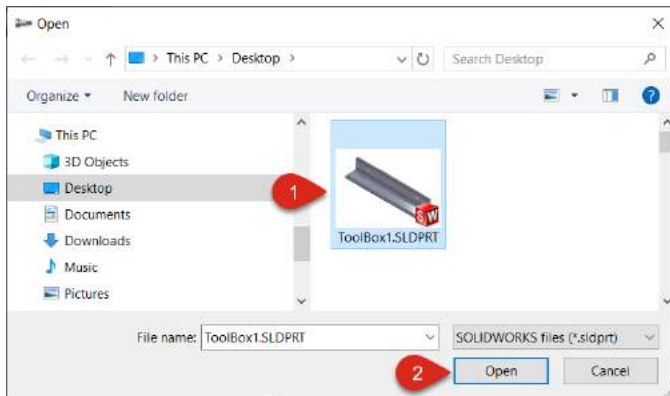

Figure 1
- **3a) Select** desired part (ex. Toolbox 1 from Desktop location – Figure 1). There should now be an icon in the main thumbnail window of the new part (Figure 2):